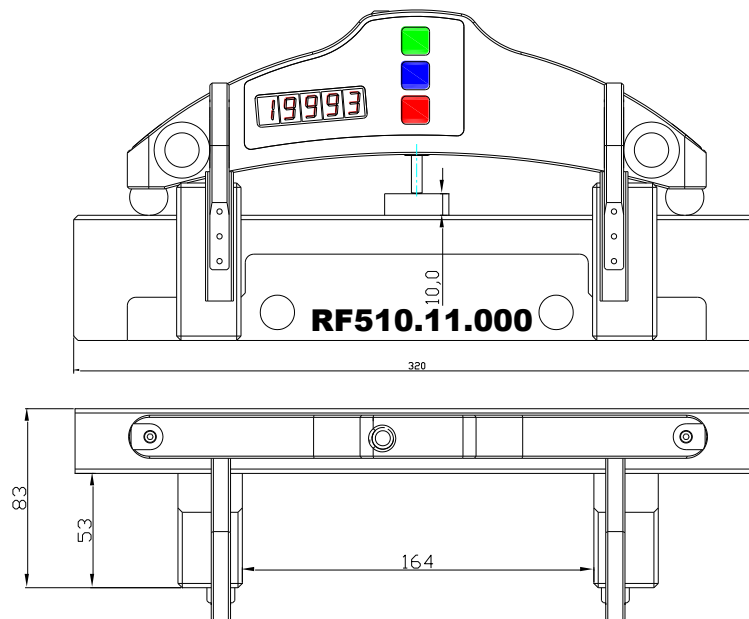

Figure 4
- Calibration plate with the deviation from flatness less than  $\pm 0,5 \mu\text{m}$  for 250 mm length (or Flat block RF510.11.000, figure 4);